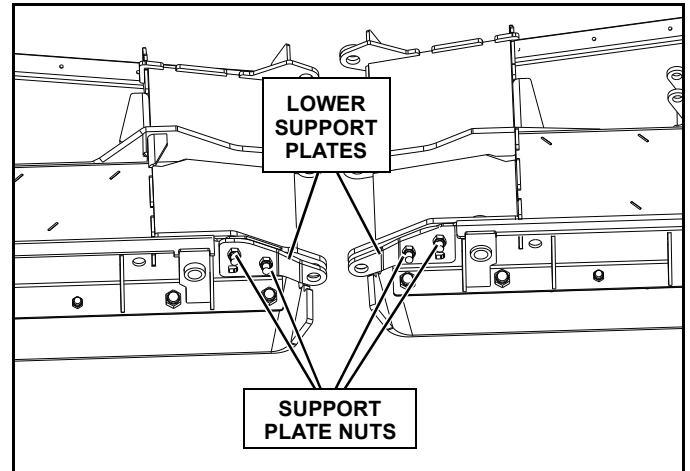

Figure 1-3
6. To aid in the pin installation as the blades are installed, loosen two nuts securing each lower support plate to the DS and PS wings (See Figure 1-3).